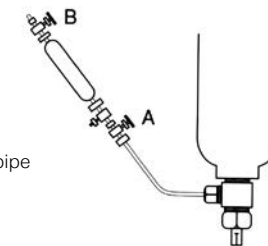

Figure 22: Obtaining a sample from a gas canister
- (1) Place the canister containing the gas upside-down or on an angle. Connect a high-pressure sampling bottle to the canister outlet using a hose designed for this purpose (Figure 22).
- (2) Open valves A and B of the sampling bottle. Next, gradually open the valve on the canister, allowing a small amount of the gas to vaporize. Release the gas through the sampling bottle.
- (3) Close valve B, and open the valve on the canister to release the sample into the sampling bottle.